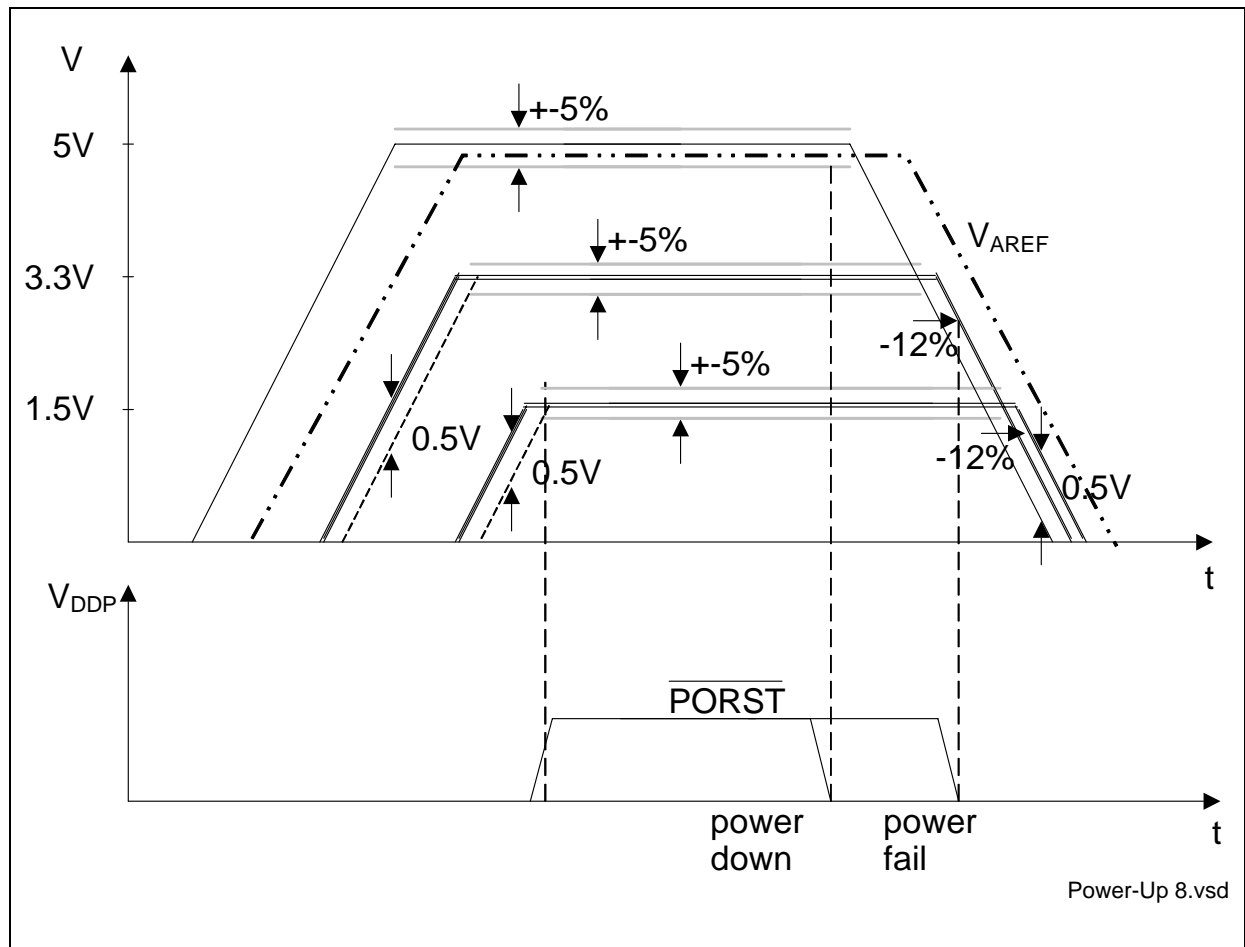

Figure 24 5 V / 3.3 V / 1.5 V Power-Up/Down Sequence
- At any moment, each power supply must be higher than any lower_power_supply - 0.5 V, or: $V_{DD5} > V_{DD3.3} - 0.5 V$; $V_{DD5} > V_{DD1.5} - 0.5 V$; $V_{DD3.3} > V_{DD1.5} - 0.5 V$, see Figure 24.